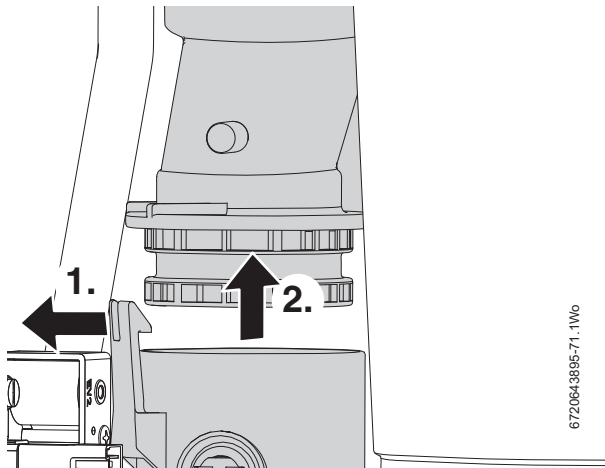

Fig. 107 Release lower exhaust connection
1. Refer to figure 107 and release the clip.